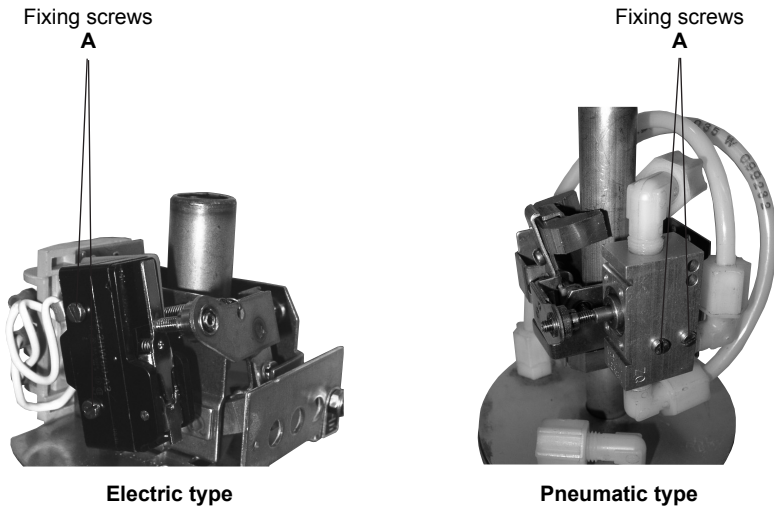

Fig. 6 - Switch mechanism
To reposition the mechanism loosen the locking screw (fig.6) permitting the switch to move along the non-magnetic pocket; fix then the mechanism in the new position. For the lower position mechanism it is also necessary to remove the locking screw from the plate.
- 2 - Loosen the 2 fixing screws "A" of the plate (see Fig. 6 - Electrical type); take out then the switch mechanism from the non-magnetic pocket.
- 2 - Loosen the 2 fixing screws "A" of the mechanism (Fig. 6 - Pneumatic type) and take it out from the enclosing tube.